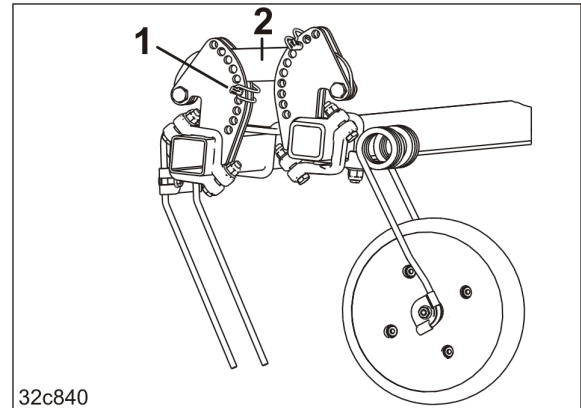

Fig. 187
3. Change the pitch of the tines to the ground by repositioning the safety pin for the tube (Fig. 187/1)
- o below the link (Fig. 187/2),
The deeper the safety pin for the tube (Fig. 187/1) is inserted in the adjuster segment, the flatter the pitch.